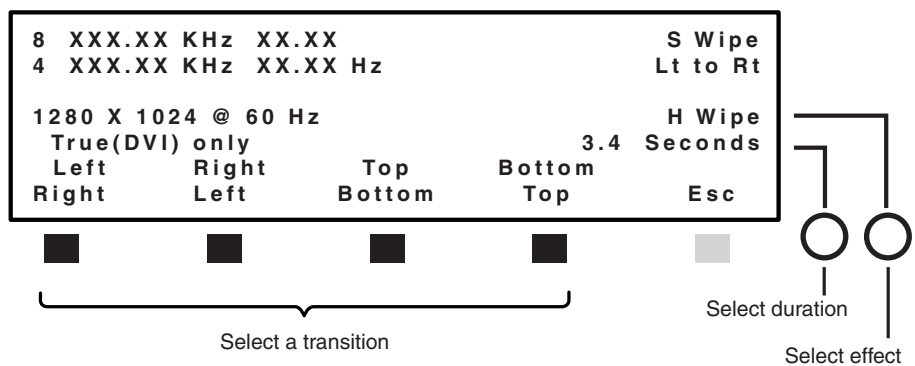

Figure 3-40 — Setting up the H wipe effect
- H wipe (hard standard wipe, figure 3-40)